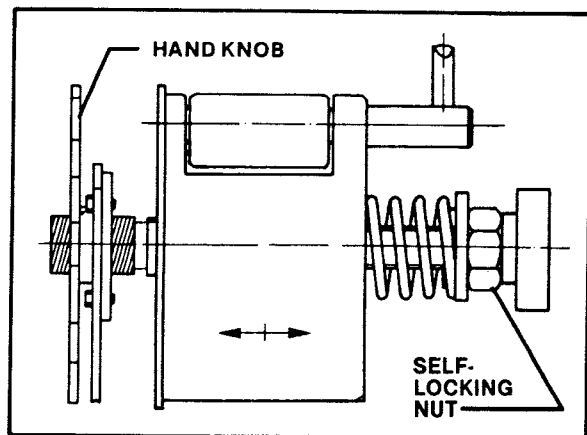

FIGURE 14
- 1) FRICITION BRAKE - Refer to Figure 14.
- a) Loosen jam nut or hand knob (figure 14) behind tape drum on tape drum shaft.
BLADE REPLACEMENT: Refer to yellow pages Parts Illustrations, Figure 14.
- 2) Position the new blade with the beveled side AWAY FROM the blade holder as shown in figure 14. Assemble the blade screws with one washer next to the screw head as shown.